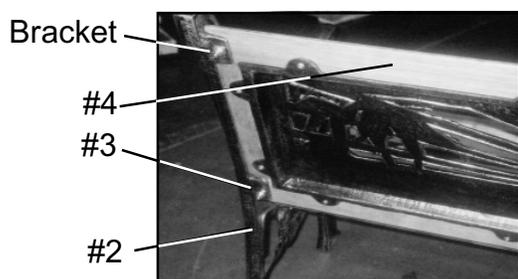

Figure 4
3. Attach the Seat Back Assembly (#4) to the brackets on the Cast Iron Ends (#2) with hardware Bolts (#3) (on front of Bench) and Nut (#3) (on back of Bench). Repeat on opposite end of Bench. **See Figure 4 & 5.**